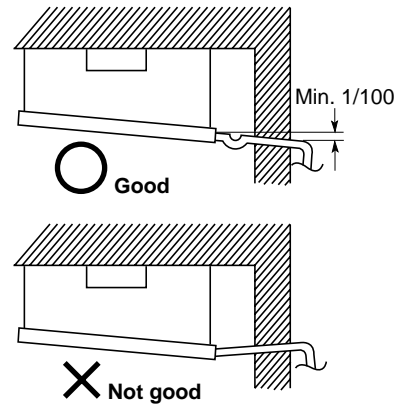

Fig. 3-102
(2) After connecting the drain pipe securely, wrap the insulator (field supply) around the pipe.
(3) Ensure the drain pipe has a downward gradient (1/100 or more) and prepare traps as indicated in Fig. 3-102.